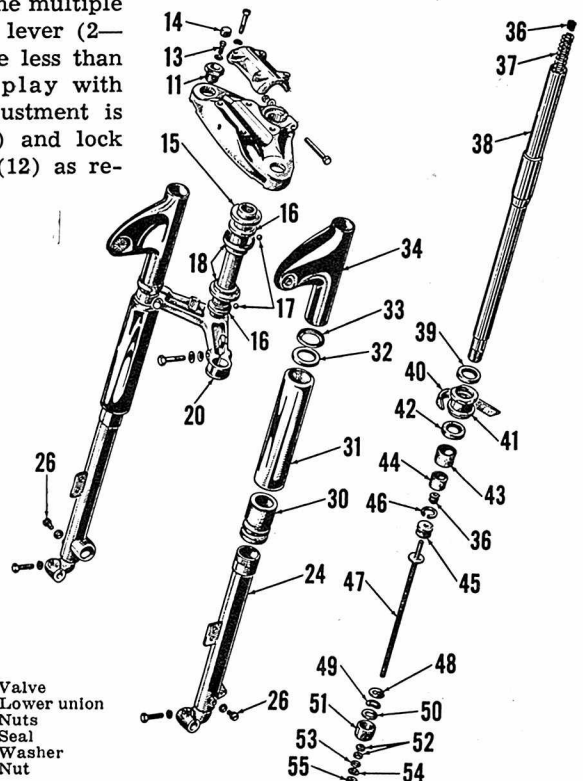

**Fig. A1-7—Exploded view of Mo-Ped and Campus 50 front suspension assembly.**
**SUSPENSION.** The front fork on Mo-Ped and Campus 50 is shown in Fig. A1-7. Oil in the telescopic fork should be drained every 6000 miles.